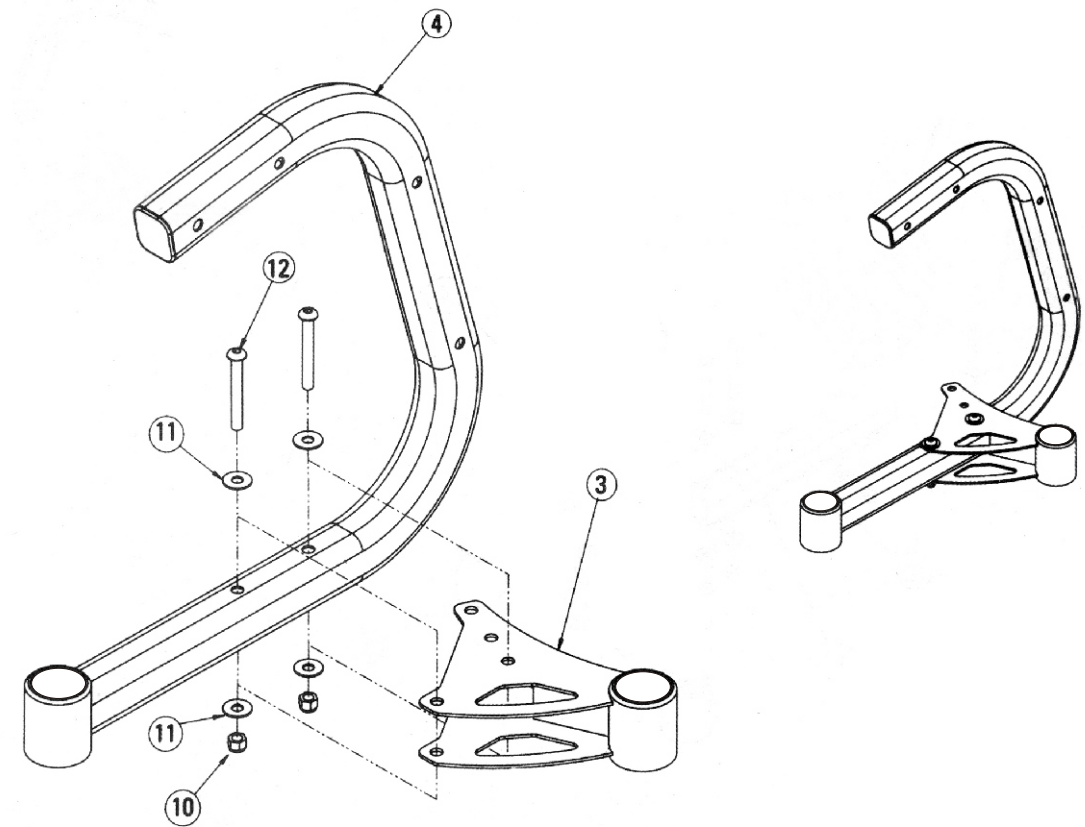

Figure 2
**2-1** Attach the Rear Right Stabilizer (#3) to the Stand Leg (#4) using the hardware shown in **Figure 2**.